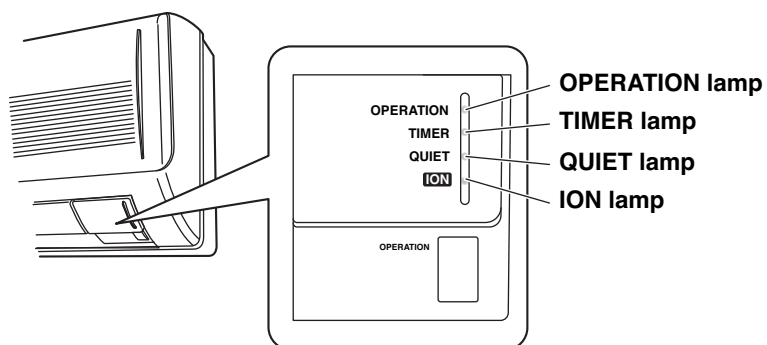

Fig. 60
- This starts the fan producing uncooled forced air with the 4 indicator lamps (OPERATION lamp, TIMER lamp, QUIET lamp, and ION lamp) on the main unit blinking. (Fig. 60)